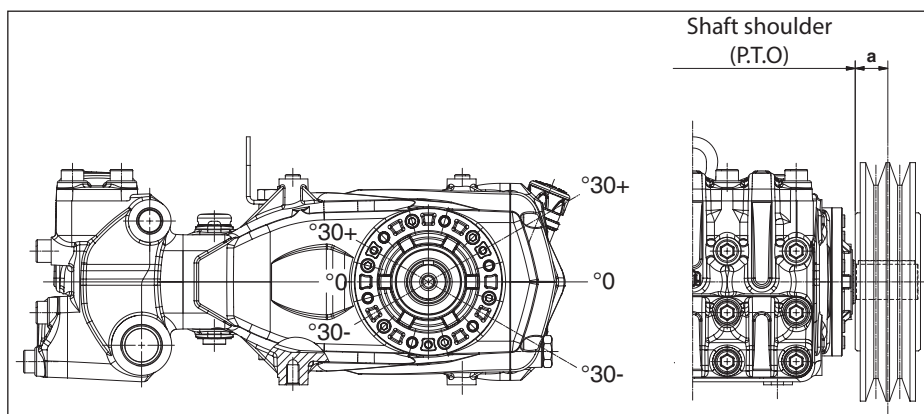

Fig. 10
The radial load on the shaft must not exceed 4500 N (value necessary for Layout definition). The transmission is considered adequate if the load is applied to a maximum distance $a = 50$ mm from the shaft shoulder (P.T.O) as shown in Fig. 10.
- b) Use high performance belts – for example **XPB** instead of **SPB** – as a lower quantity of belts for the same transmitted power may be necessary and a consequent shorter resulting distance compared to the shaft shoulder (P.T.O) “a” of Fig. 10.
- e) Follow the direction of the belt pull as shown in Fig. 10 for other needs, contact our **Technical** or **Customer Service Department**.